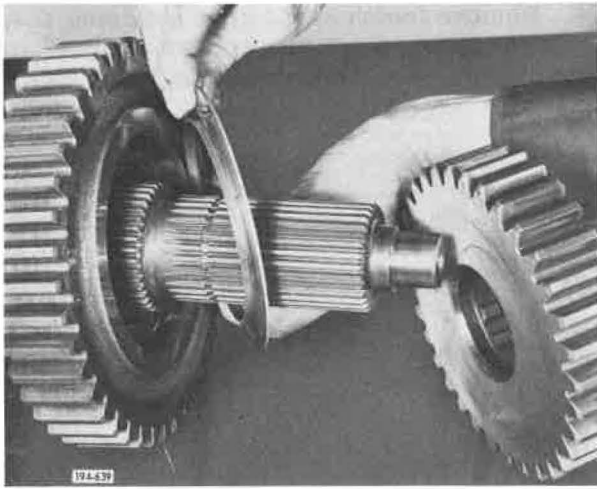

Figure 5-304. Removing Gear and Washer
6. Remove fourth speed gear and third speed gear flanged thrust washer. See Figure 5-304.